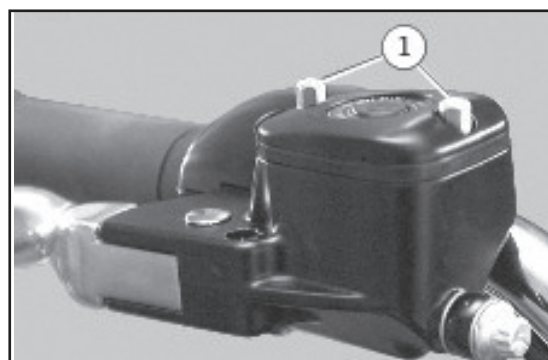

Figure 3. Installing Standoff Studs
6. Remove the two screws retaining the brake master cylinder reservoir cover. See Figure 3. Replace with the two standoff studs (1) in the kit. Tighten to 6-8 in-lbs (0.7-0.9 Nm).
7. Remove the rear-view mirror from the front brake master cylinder assembly. Place the new chrome brake reservoir cover from the kit in position. The holes in the top of the cover should line up with the holes in the standoff studs. Fasten the cover to the studs with the wave washers (7) and screws (8) from the kit.